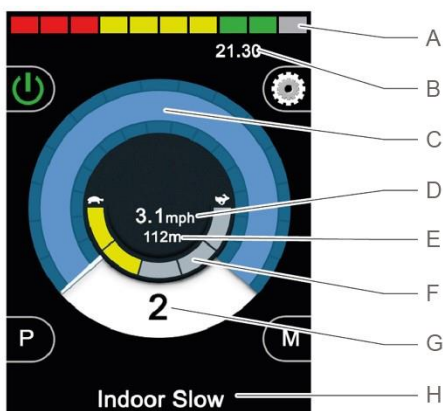

Figure 3 – Example of the drive screen.
This displays the approximate charge available in the battery and can be used to alert the user to the status of the battery. See item (A) on figure 3.
This area contains information and warning symbols, as well as a clock. See item (B) on figure 3.
This gives a graphical display of the wheelchair's speed. See item (C) on figure 3.
This displays the actual speed of the wheelchair in digital form, in either mph or km/h depending upon programming. See item (D) on figure 3.
This displays the total distance the wheelchair has travelled or the trip distance since the last reset. See item (E) on figure 3.
This displays the current maximum speed setting. See item (F) on figure 3.
This denotes the currently selected profile, shown in numeric form. See item (G) on figure 3.
This area of the screen displays text relevant to the operating condition of the control system. See item (H) on figure 3.
These turtle icons will be displayed on the left part of the speed indicator, see item (C) on figure 3.
This symbol will be displayed if the control system is set for latched drive operation, and is displayed on the right part of the speed indicator, see item (C) on figure 3.